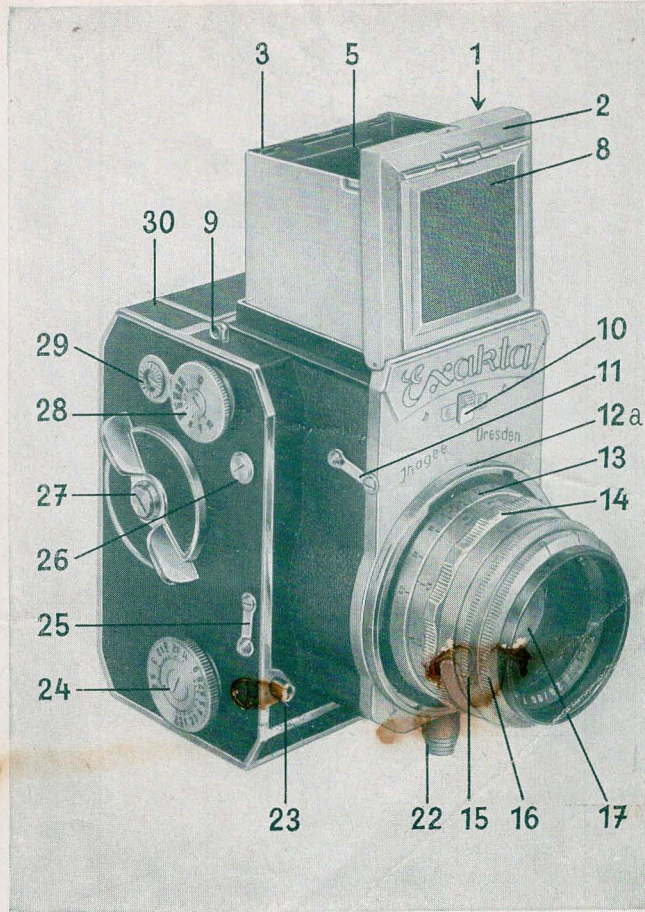

Fig. 2
The ground-glass image is enlarged by the interchangeable ground-glass magnifier underneath the lighthood (1). Additional enlargement is gained by the magnifying lens (4), Fig. 2: Push the knob (6) downwards in the direction of the arrow. With the magnifying lens (4) in working position, push the two side flaps of the lighthood slightly inward, using light pressure of thumb and index finger, causing the flaps to snap into the panel (5) of the magnifying lens (protection against outside light). When using the magnifying lens (4), hold the camera close to your eye!